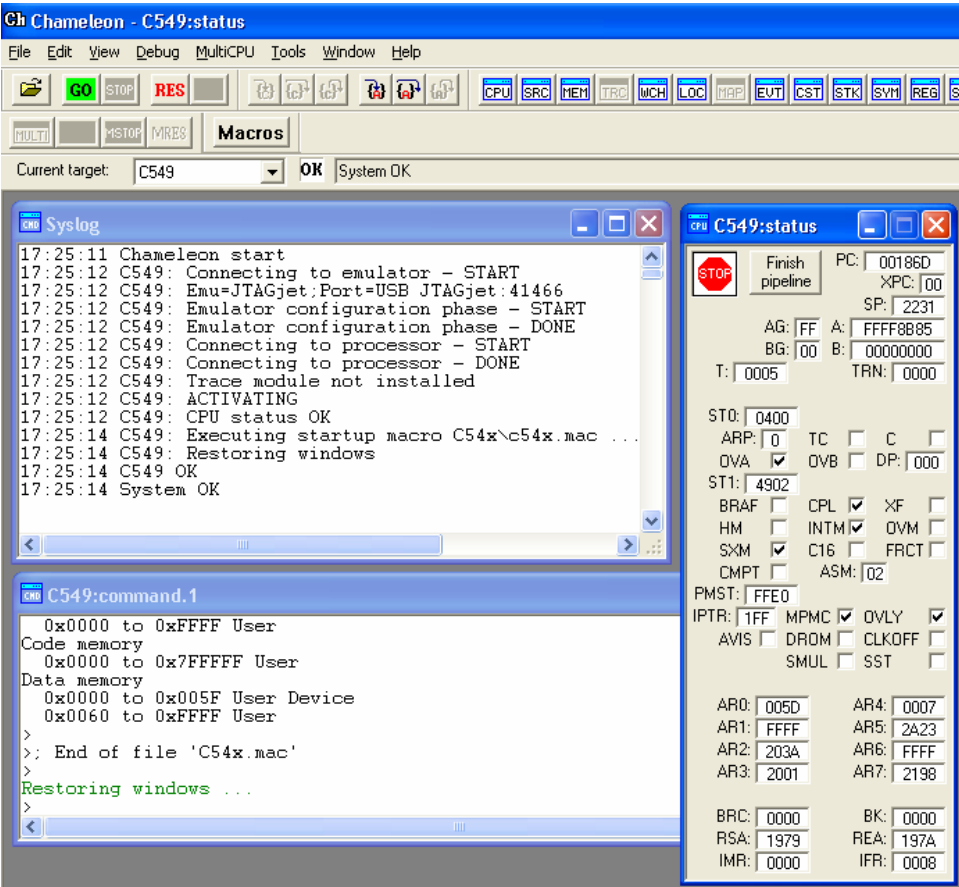

FIGURE 9 Sample initial Chameleon Debugger screen. The target device is the C54xx DSP. The user opened the Status window and Command window.
10. Click OK. After Chameleon establishes connection with the emulator, the initial debugger screen should be similar to that in Figure 9.